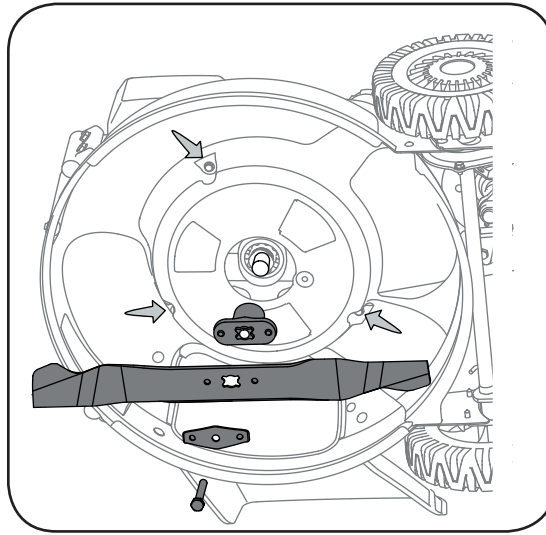

Figure 13
1. Remove the bolt and the blade bell support which hold the blade and the blade adapter to the engine crankshaft. See Figure 13.
7. Install the blade adapter on the crankshaft with the "star" away from the engine. See Figure 13. Place the blade with the side marked "bottom" (or with part number) facing away from the adapter. Align the blade bell support over the blade with the tabs in the holes of the blade and insert the hex bolt.
6. Using a 3/8" socket remove three hex screws holding the baffle to the deck. See Figure 13.